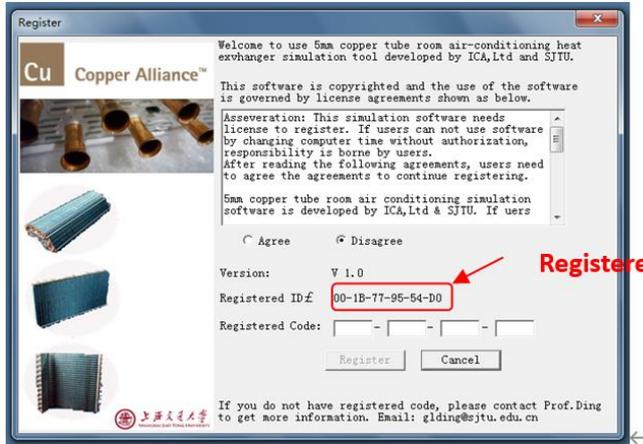

Fig.1
- ✓ Run HXSim.msi, the following dialog will pop out for register as shown in Fig.1. Send the registered ID via email to yuli@craheta.org, you will get the registered code within 1-2 days.